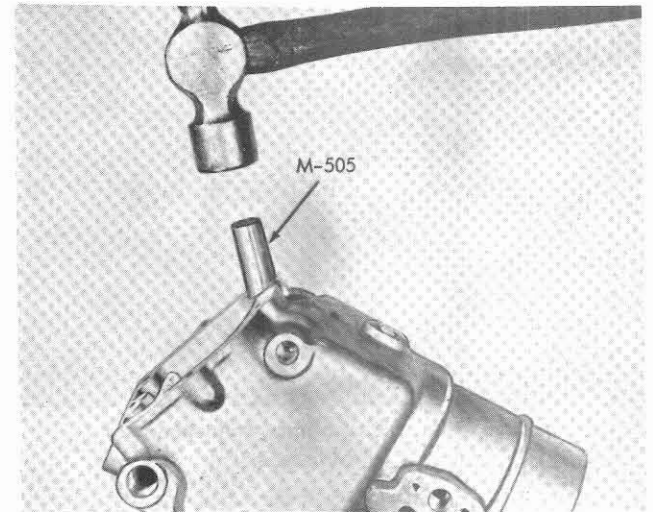

Figure 2-13. Driving Pump-Discharge Valve to Depth in Housing
(2) After it has been pushed in and located firmly, press in with tool (Part No. M-505). (See figure 2-13.)